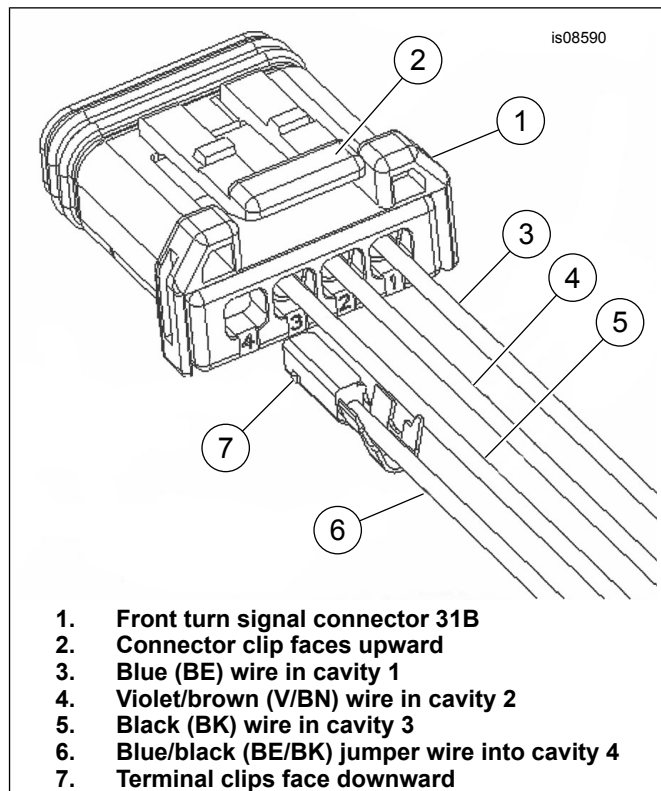

Figure 6. Insert Jumper Terminal Into Cavity 4
8. See Figure 6. Insert a fog lamp jumper wire harness (6) from the kit into cavity 4 of connector [31B]. Use a sealed splice connector to secure the (R) fog lamp wire to the (BE/BK) jumper wire.